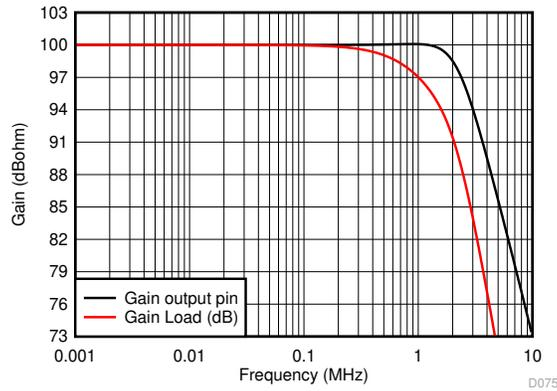

图 9-8. Small-Signal Response for 100-k $\Omega$  Transimpedance Gain
- Assume a nominal source capacitance value of 100 pF. This normally comes from the capacitance versus reverse bias plot for the photodiode. No reverse bias is illustrated in 图 9-8, but the current source is typically a back biased diode with a negative supply on the anode and the cathode connected to the op amp inverting input. In this polarity, the signal current sinks into the diode and raises the op amp output voltage above ground.
Implementing this design and simulating the performance using the TINA model for the response to the output pin and to the final capacitive load shows the expected results of 图 9-8. Here, the exact 2.2-MHz flat Butterworth response to the output pin is shown with the final single pole rolloff at 1 MHz at the final 2.2-nF capacitor.